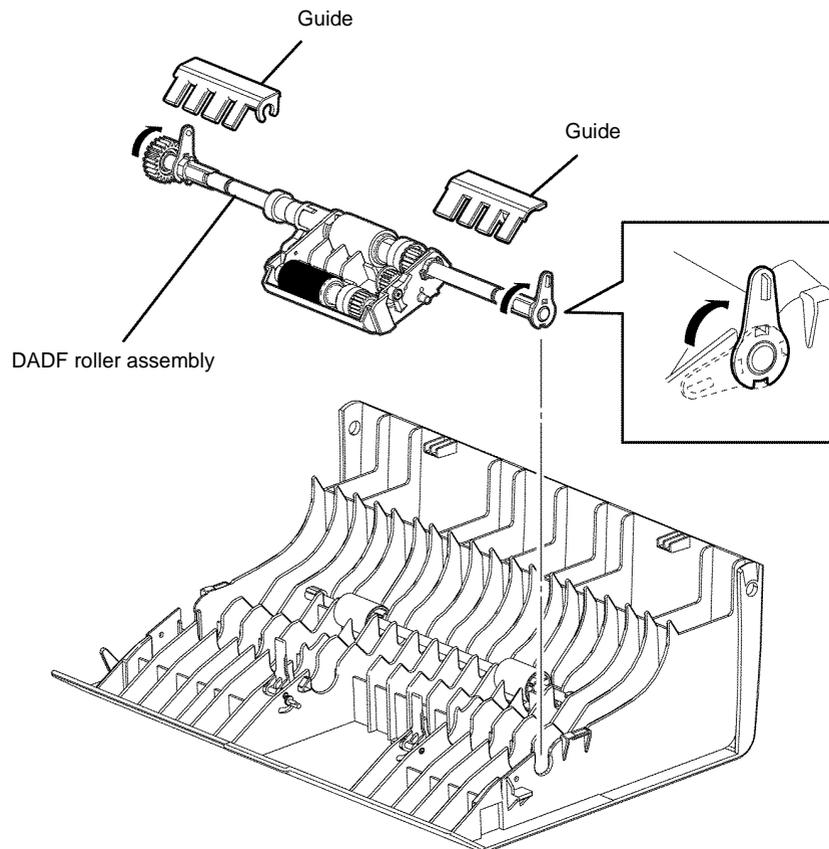

Figure 1 DADF feed roller assembly removal
2. Release two lock levers, then remove the DADF roller assembly, Figure 1.